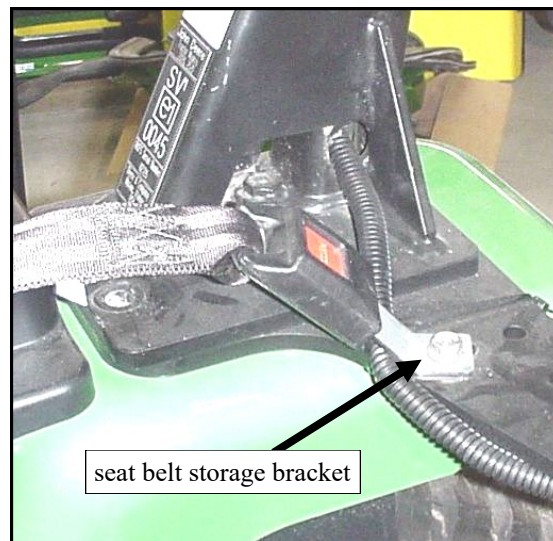

Fig. 1.4 View from left side of vehicle
**1.4** Adjust the orientation of the two seat belt brackets if they are not set at approximately 45 degrees already. See fig. 1.4. Two-fold reasoning: 1) for clearance for hard sided rear panel to sit properly, 2) the clearance slits in the Behind Seat Filler (black rubber piece) are predetermined to be approximately 45 degrees. To adjust the orientation, simply put a wrench on the head of the bolt and turn the entire bolted assembly a few degrees. No need to loosen the locknut underneath the fender.